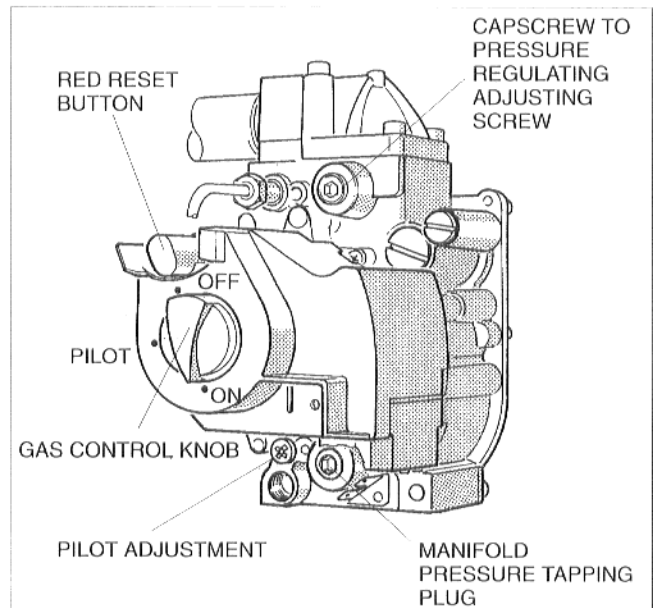
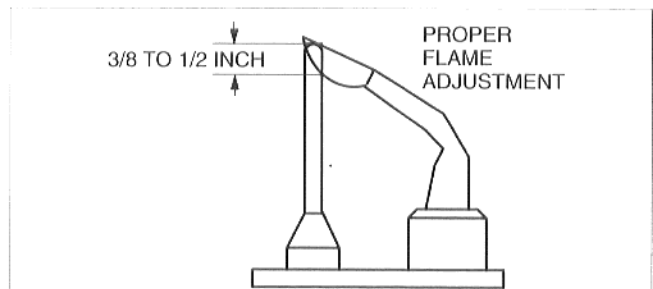

Fig.9
Fig.10
42. Observe the pilot flame through hole in the burner assembly plate. The flame should envelop the thermocouple 3/8 – 1/2 inch, fig. 10. If the pilot flame is satisfactory then go to step 43. If the pilot flame is too small or too large, adjust the pilot using the pilot adjustment screw., fig. 9. Turn the inner adjustment screw clockwise  to decrease, or counterclockwise  to increase the pilot flame. After adjustment, replace the cover screw and tighten firmly.
49. The manifold pressure must be adjusted to the values shown in the table 4. To adjust the manifold pressure, remove the capscrew from the gas control, fig. 9. Turn the pressure regulating adjusting screw clockwise ↻ to increase, or counterclockwise ↺ to decrease the manifold pressure. This adjustment must be made while the boiler is in operation.
50. After adjustment, install the capscrew on the gas control, fig.9.